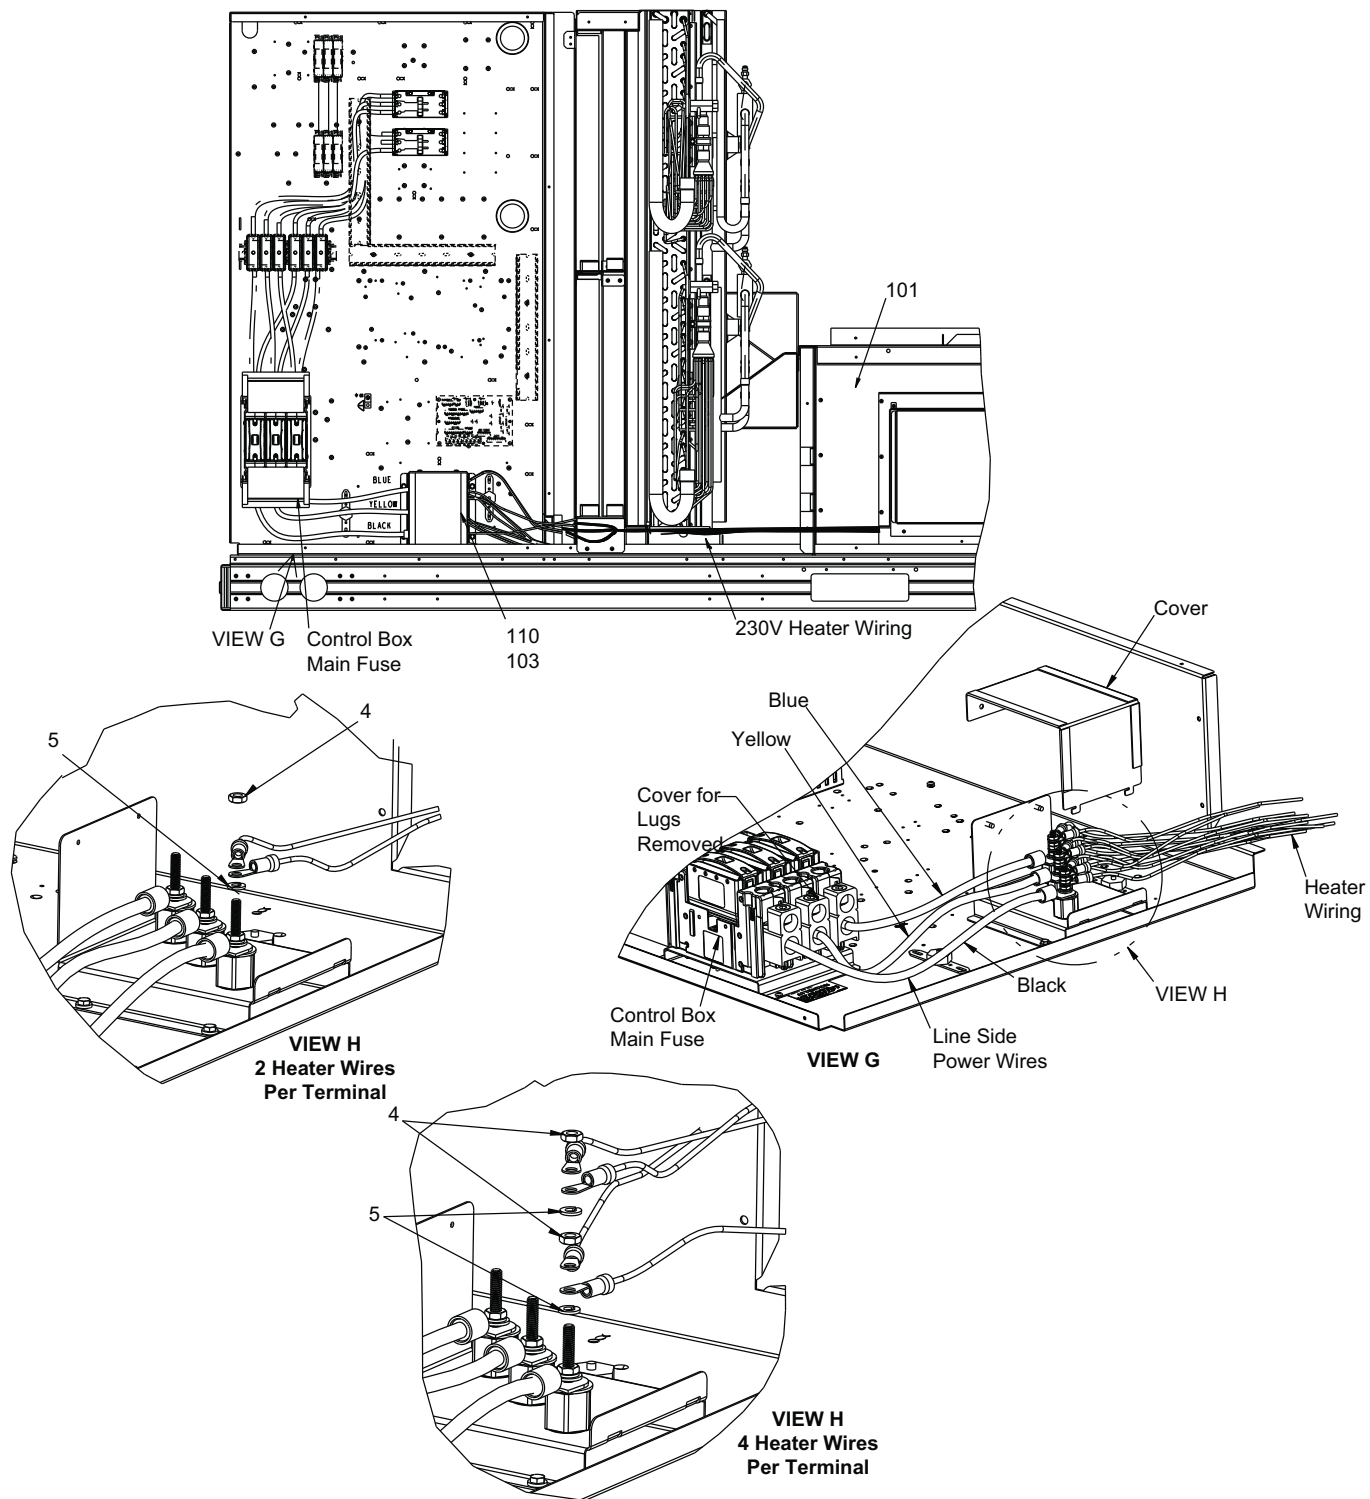

Fig. 53 — 230V Single Point Power Assembly Location (High SCCR)
1. Install terminal block assembly in location shown in Fig. 53.
For 4 wire/leg assembly: add lock washers (Item 5), turn bottom two wires so barrel of terminal is down as shown in Fig. 53. Add nut (Item 4) and tighten to 9-10 Nm (79 in.-lb). Add second lock washer (Item 5), the top two wires shall be installed with barrels “up.” Add second nut (Item 4) and tighten to 9-10 Nm (79-88 in.-lb).